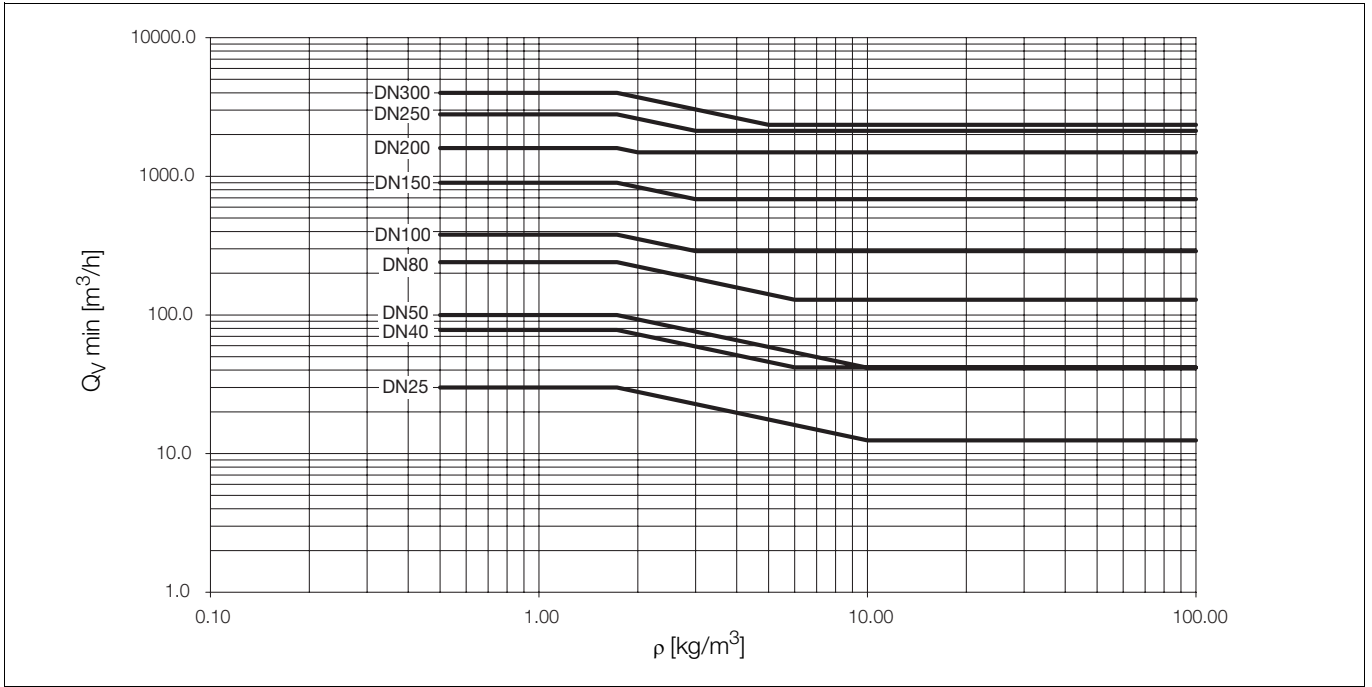

Fig. 7: Minimum Flowrates, Gas/Steam as a Function of the Fluid Density, DIN-Design (HT)
- Flow range start at ρ = 7.4 kg/m³ (from Fig. 7):